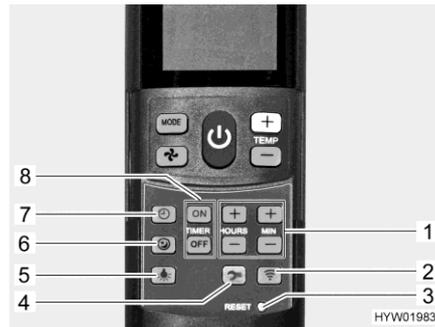

Fig. 230 Remote control with setting buttons (air conditioning unit)
Activating soft-start: ■ Press the soft-start button (Fig. 230,6). The fan then runs at low speed in cooling mode, which makes it especially quiet.
Setting the time: ■ Press the time button (Fig. 230,7).
■ Set the hours and minutes with the buttons (Fig. 230,1).
Programming the switching on time: ■ Press "ON" button (Fig. 230,8).
■ Press the buttons for setting the time (Fig. 230,1) until the desired time span until switch-on is reached.
■ Press "ON" button (Fig. 230,8).
Programming the switch-off time: ■ Press "OFF" button (Fig. 230,8).
■ Press the buttons for setting the time (Fig. 230,1) until the desired time span until switch-off is reached.
■ Press "OFF" button (Fig. 230,8).
Deactivating the timer: ■ Press the "ON" or "OFF" button (Fig. 230,8) again.
Switching on the lighting: ■ Press the light button (Fig. 230,5). The light is switched on at the last set dimming level.
Dimming the lighting: ■ Press the light button (Fig. 230,5) and keep it pressed until the desired brightness is reached.
Switching off the lighting: ■ Press the light button (Fig. 230,5).
▷ The Setup button (Fig. 230,4) is used to connect the remote control with the air conditioning unit during first set-up.